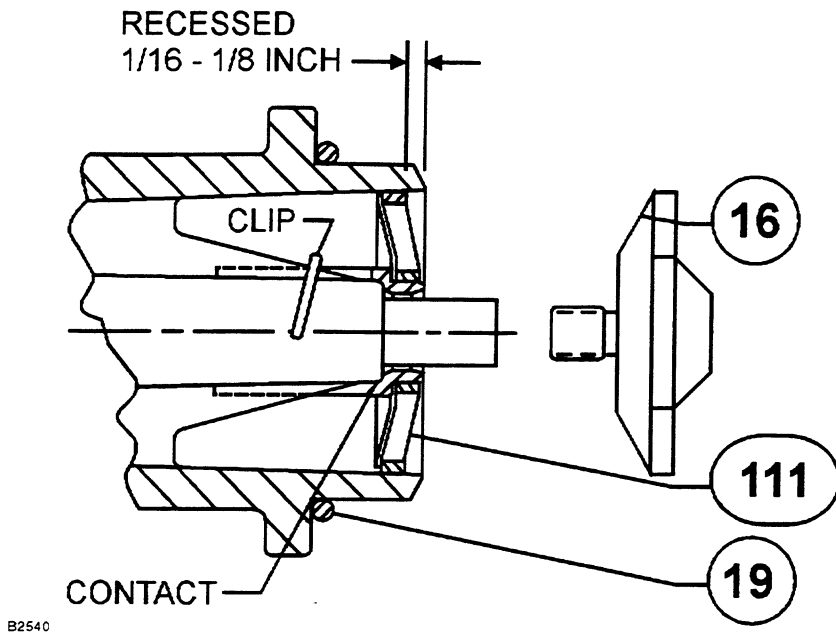

Figure 1. Boost Cartridge Assembly
This addendum sheet describes the maintenance procedures for the Type S202DD regulator. All key numbers are shown in figures 1 through 3 of this addendum.
4. If the seating edge of the seat ring (key 20) is nicked or rough, remove the seat ring from the body.
5. Examine the boost cartridge (key 111, figure 1) for damage or wear. To remove the boost cartridge (key 111), use a suitable tool to carefully remove the boost cartridge (key 111) from the valve stem (key 13). To replace the boost cartridge, press the plastic boost cartridge with both thumbs until it contacts the end of the stem guide inside the boost throat of the lower casing.
6. Install a new seat ring (key 20) into the body, if necessary.